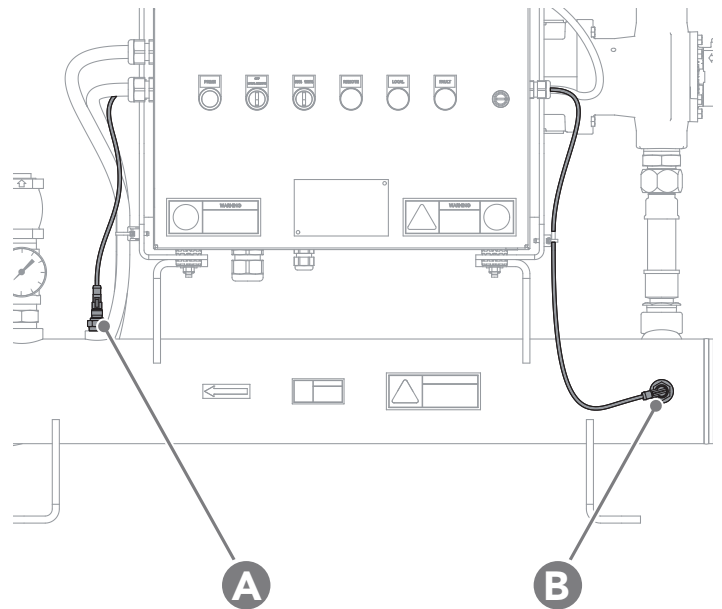

Figure 11. OXM/OGM high-limit RTD (A) and control RTD (B).
- If there **is no continuity** between TCR terminals **T2** and **T3**, locate connected RTD on the heating tank. Unscrew the RTD plug from RTD. See Table 2 and Fig. 10, Fig. 11 on following page.
2. Close isolation valves. Drain fluid from the oil heating tank. Locate the RTD that requires replacement. See Fig. 11.